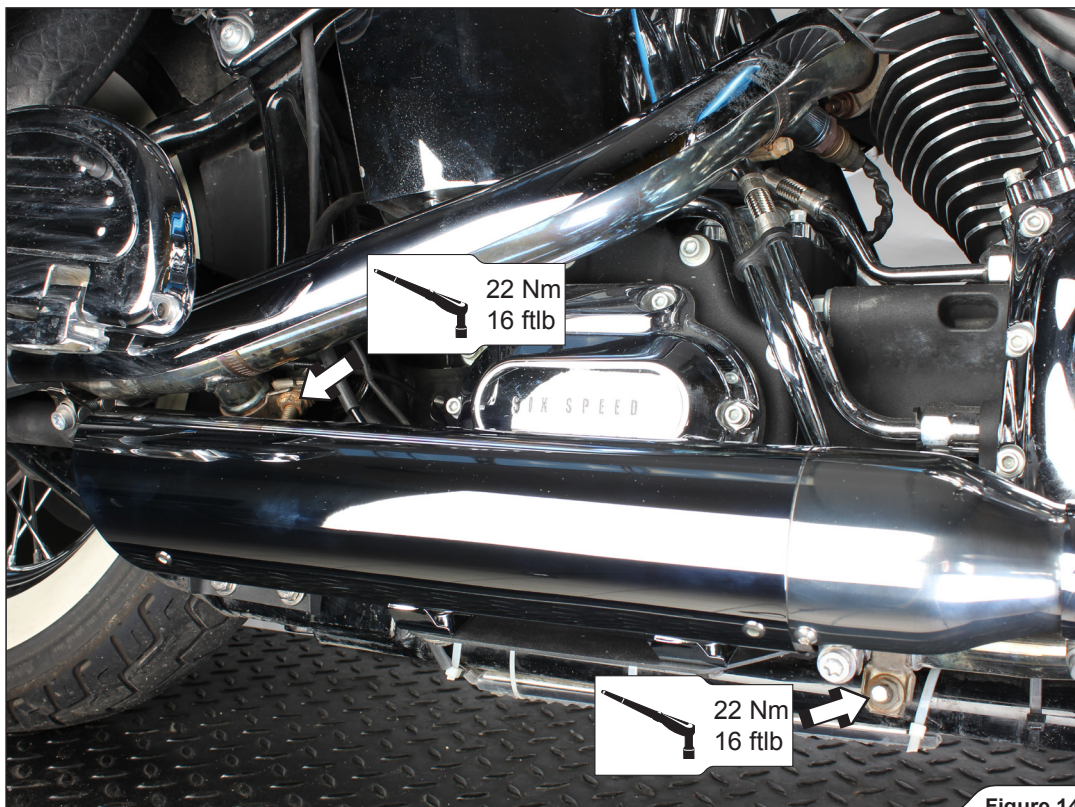

Figure 14
6. Tighten the headers-bracket connection clamps to a specified torque (Figure 14).